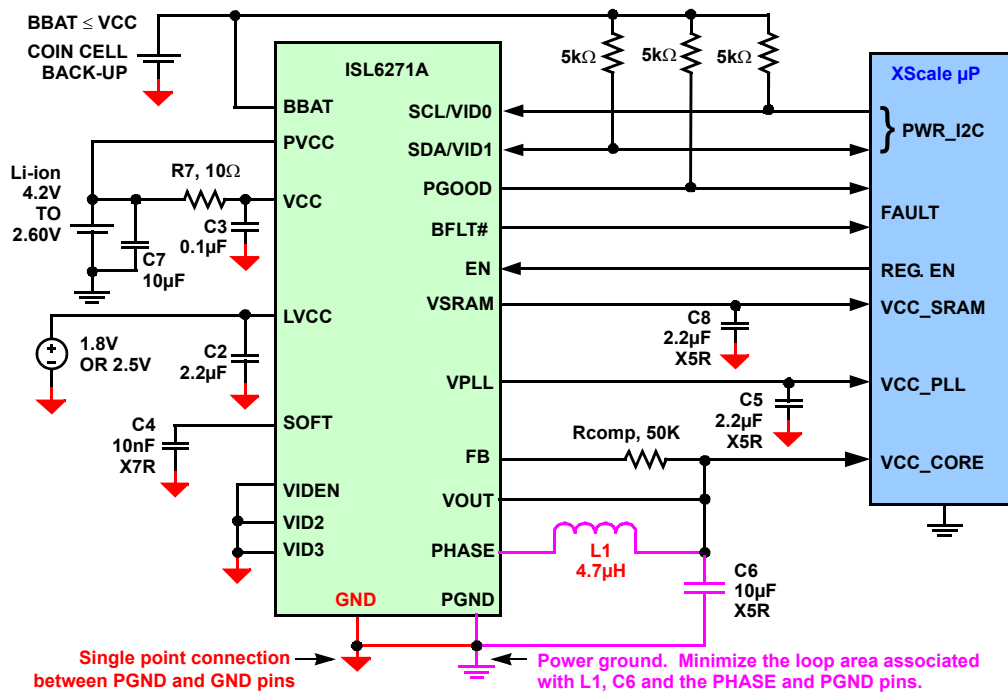

FIGURE 19. TYPICAL APPLICATION CIRCUIT
To minimize switching noise, it is important to keep the loop area associated with the phase node and output filter as short as possible. It is also important that the input voltage decoupling capacitor C7 be located as close to the PVCC pin as possible and that it has a low impedance return path to the PGND pin. In general a good approach to layout is to consider how switching current flows in a circuit, and to minimize the loop area associated with this current. In the case of the switching regulator, current flows from C7 through the internal upper P-MOSFET, to the load through the output filter and back to the PGND pin. *To maximize the effectiveness of any decoupling capacitor, minimize the parasitic inductance between the capacitor and the circuit it is decoupling.* Notice that Figure 19 illustrates the SIGNAL ground with RED highlighting. All components associated with these terminals should be tied together first. Be sure to make only one connection between this net and the PGND pin to avoid ground loops and noise injection points into sensitive analog circuitry.
1. Do not leave pins VID2(5) or pin VID3(6) floating when using the I²C bus. Tie these pins to GND (16).
2. Make sure that load current on VOUT returns to the pin 7 (PGND). Pin 16 (GND) functions as a quiet return for the LVCC loads. Tie Pin 16 to Pin 7 at a single point as in Figure 19.